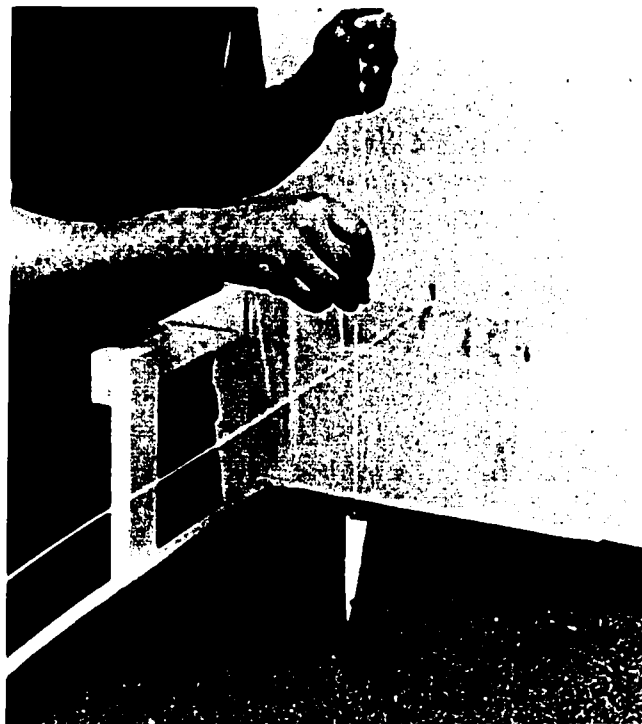

Fig. 32-4: Locating Ground Points
1. Using the plumb bob, find the exact corner ground points. This is done by placing the plumb bob at the intersections of the strings. Slowly lower the plumb bob until it just touches the sand. See Fig. 32-4.